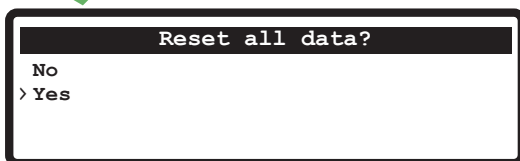

Fig. 74
- It is possible to delete all job's data (Fig. 74).
- The screen of Fig. 74 will be displayed: select **Yes** and press **OK**.